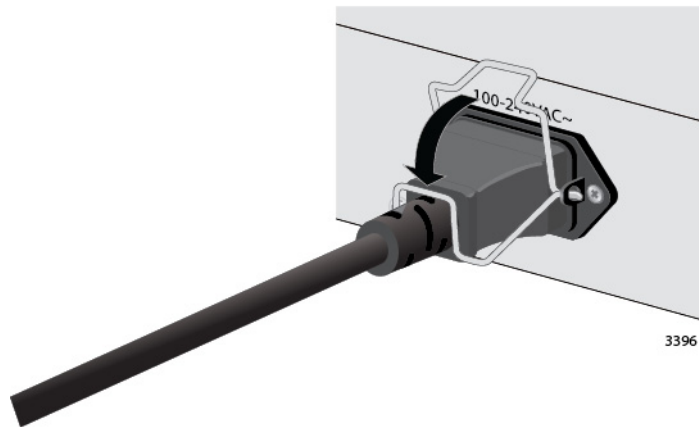

Figure 44. Lowering the Retaining Clip
7. Secure the power cords to the switches by lowering the retaining clips. See Figure 44.